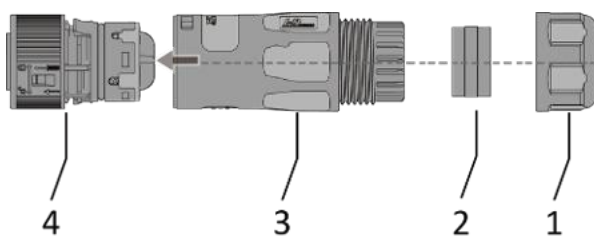

Fig. 14. Grid connection plug
1. Description of the individual parts of the AC connector [see Fig. 14]